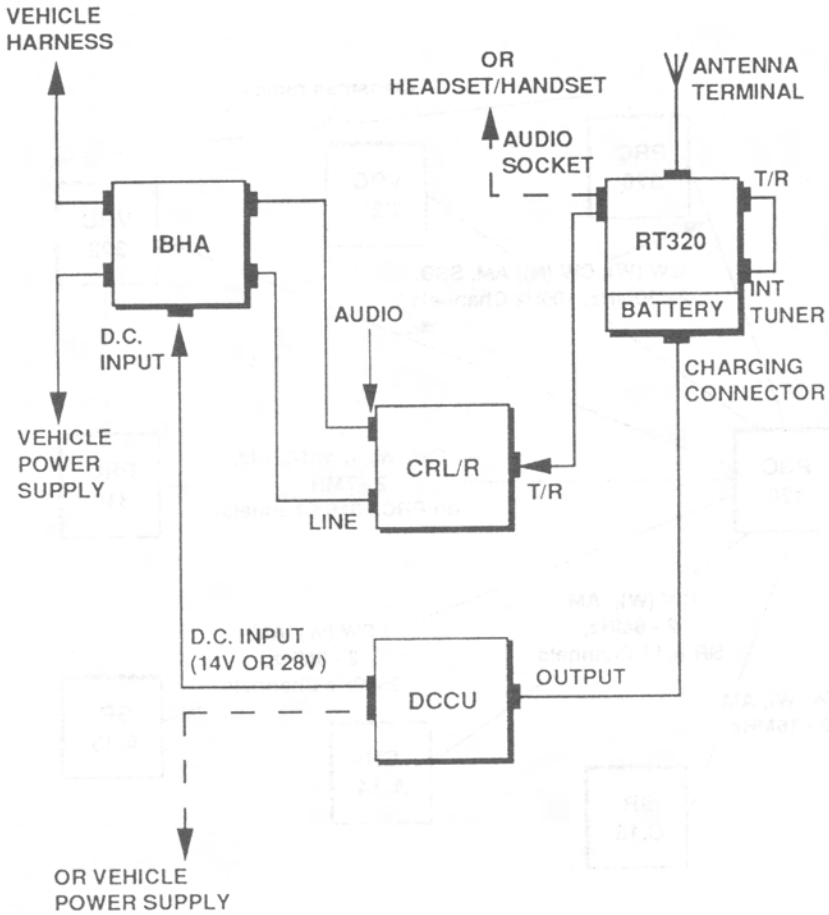

Fig.21 Vehicle Harness Interface
3.2 The RT 320 is normally mounted on its carrier, which is secured to a mounting frame installed in the vehicle by means of clips, and connected via its antenna terminal to the vehicle whip antenna. The equipment can be connected directly to a headset or handset via an audio socket, as in the manpack role, or into the vehicle harness (28V vehicles only) via a control, radio set, local/remote (CRL/R) and interconnecting box, harness adaptor (IBHA), as shown in block diagram form in Fig.21. The battery is normally float-charged by either a 14V or a 28V input d.c. charging unit (DCCU), depending on the vehicle electrical supply. Under no circumstances is the RT 320 to be powered directly by the vehicle electrical supply as damage would result from so doing.